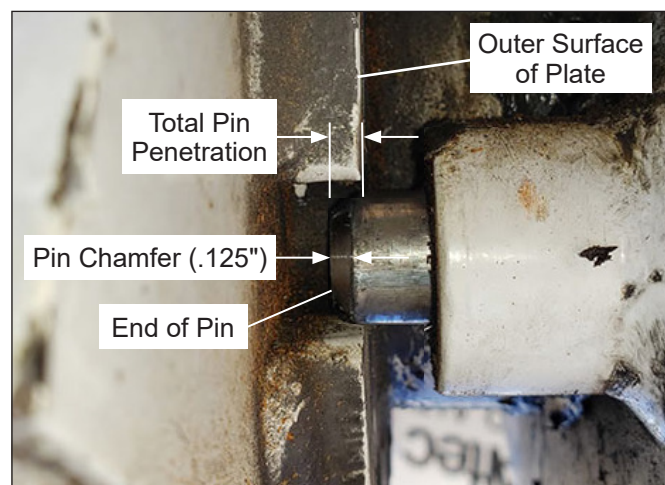

Figure 5 – Measuring Total Pin Penetration
8. Measure the total depth of penetration of the rotational positioning pin into the rotational indexing plate hole, from the outer surface of the plate to the bottom end of the pin (refer to Figure 5), and record this measurement below.